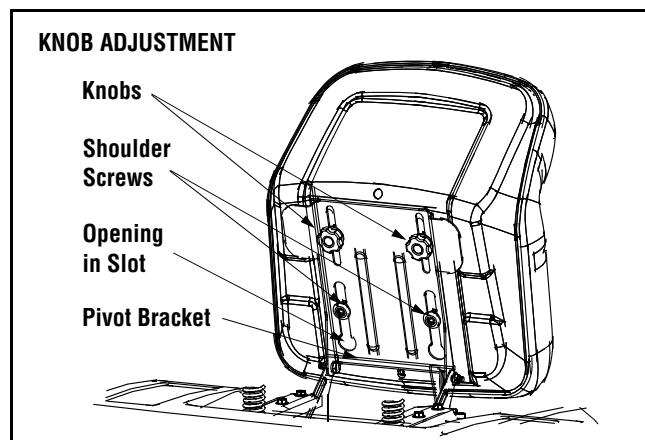

Figure 4
- Position the shoulder screws (found on the base of the seat) inside the slot openings in the seat pivot bracket. See Figure 4.
- Select desired position for the seat, and secure with the two knobs removed earlier. See Figure 4.